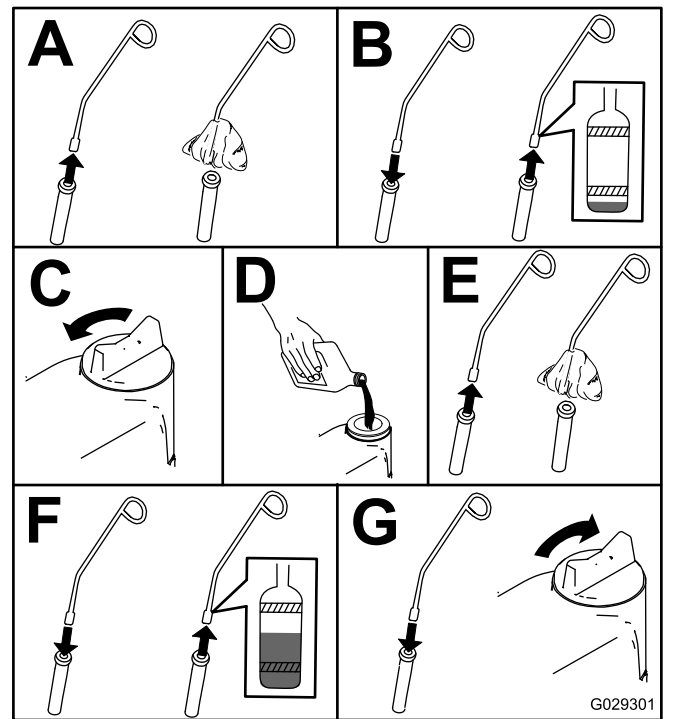

Figure 41
3. Check the engine-oil level as shown in Figure 41.